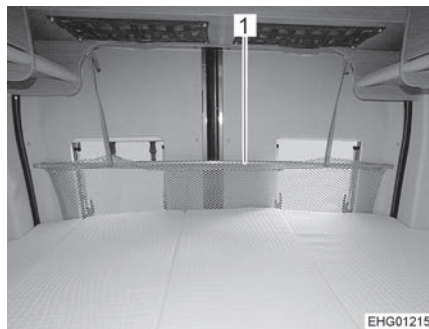

Fig. 73 Fall out protection (longitudinal rear bed)
- ▷ The windows of the rear doors are equipped with a fall out protection (Fig. 73,1).